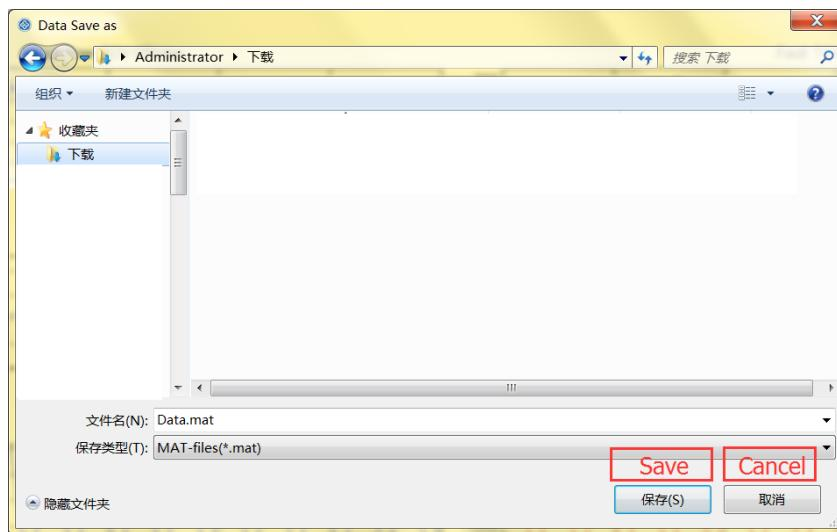

Fig. 37 Save data
- 4) After the simulation, click the ‘Save Data’ button on the toolbar, it will pop-up the data save window, as shown in Fig. 37.